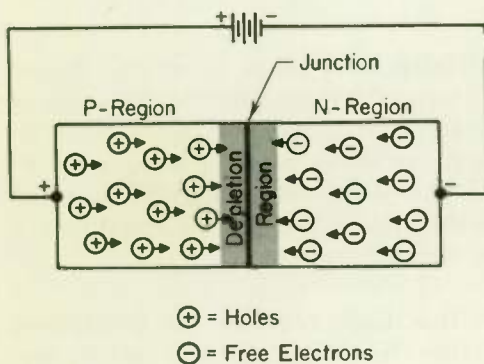
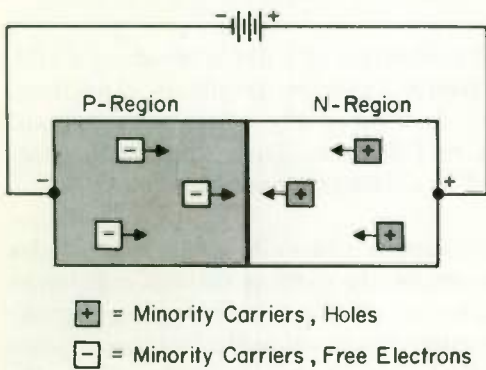

Fig. 16 Diode conduction with forward bias.
Fig. 18 A reverse biased diode has a leakage current consisting of the minority carriers.
DIODE CONDUCTION IN THE FORWARD DIRECTION . . . A diode is forward biased when the (130) _____ terminal of a battery is connected to the P-region of the diode, and the other battery terminal to the N-region. A forward biased diode (131) *(will)* *(will not)* conduct. You can see why by referring to Fig. 16. The positive potential applied to the P-region repels the holes toward the junction where they meet up with free electrons being repelled by the negative
Because of the minority charge carriers, a semiconductor diode will conduct a small current when reverse biased. Refer to Fig. 18 and compare with Fig. 16. You will see that from the point of view of the
minority carriers, the diode of Fig. 18 is forward biased, and consequently conduction by the minority carriers occurs the same way as by the majority carriers in Fig. 16. Fortunately, the fact that there are few minority carriers limits reverse current to a small amount.